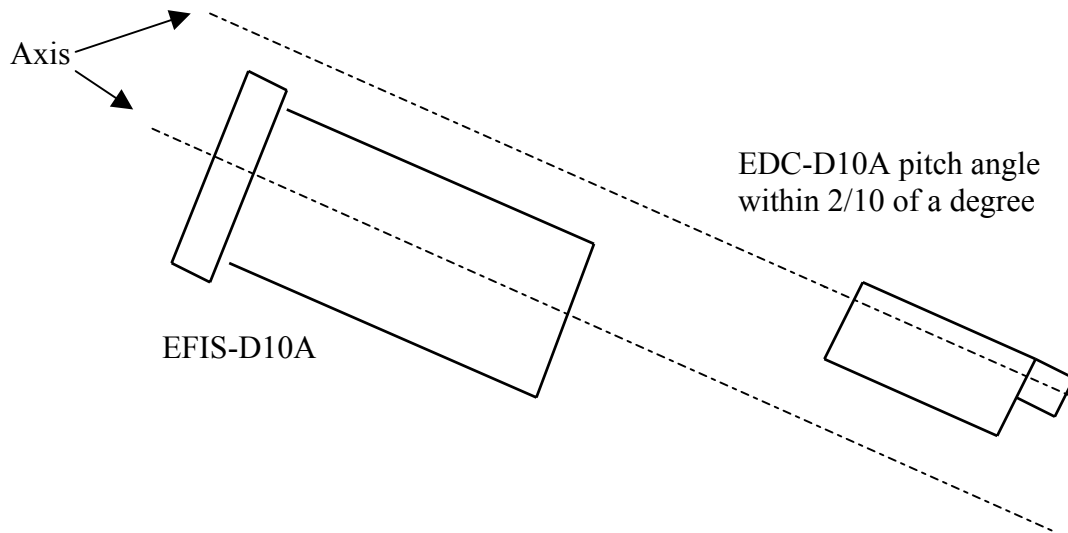

Figure 3.
- c. It is essential that the EDC-D10A and the EFIS-D10A have the same pitch angle, within 2/10 of a degree. Read the angle of the EFIS-D10A mounted in the instrument panel, and install the EDC-D10A on its mounting bracket/location to reflect the same pitch angle of the EFIS-D10A. (See Figure 3)